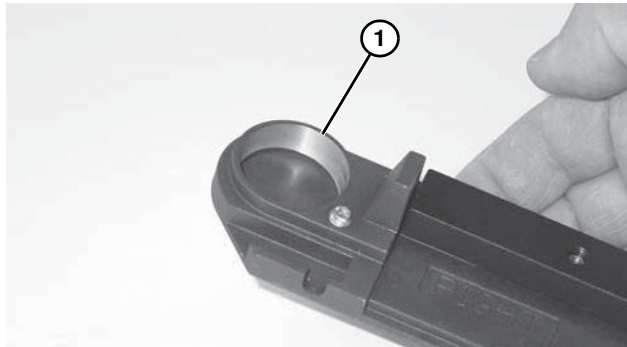

Figure 122
1. Inspect the head plates bearing seating surface (**Figure 122, item 1**). If they are worn or damaged, replace. See “Service Parts” on page 60.